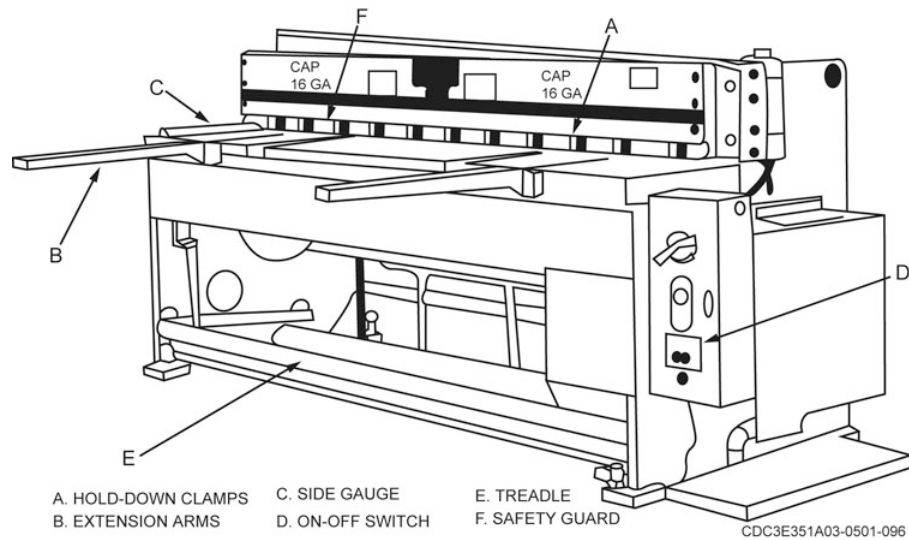

Figure 4-66. Power-operated squaring shear.
Power-operated squaring shears (fig. 4-66) provide a convenient means of cutting and squaring sheet metal. Using this tool saves time and increases production.
This machine consists of a lower blade that's stationary on the bed of the shear, an upper blade that's attached to the crosshead, and hold-down clamps (fig. 4-66, A) to hold the metal securely during cutting. The hold-down clamp lets you get your hands out of the way during cutting. The bed of the power shears has extension arms (fig. 4-66, B) to support long sheets of metal. At the left end of the bed is a guide (side gauge, fig. 4-66, C) that is graduated in sixteenths of an inch. This guide can be used as a measuring scale for cutting short lengths of metal. It also keeps the metal square with the blade. The on-off switch (fig. 4-66, D) is mounted on the control box.
The back gauge is not shown in figure 4-66, but is a very useful part of the shear. The back gauge is adjustable forward and backward, depending on the length of metal required. There is no need to measure between the back gauge and the fixed horizontal blade because you can read all measurements on the back gauge, which is graduated in sixty-fourths on an inch. Newer shears have a computerized back gauge with a digital display that makes adjustments easier.
Before turning the power shears on, check the machine to make sure it is clear of material and people. The machines you use have guards for your protection; *never* remove them, except when the machine is being repaired. The blade safety guard isn't visible in figure 4-66, F because it's between the hold-down and cutting blade. The blade guard is designed to keep your hands and fingers away from the cutting blades as you operate the machine. Wheel and belt guards are there to protect people and to keep foreign objects from being caught in the moving parts.
3. Make sure the motor reaches full speed before you step on the treadle to cut the metal (fig. 4-66, E). Depressing the treadle engages an automatic clutch that sets the shearing blade in action. When set for single, the shear goes through only one cycle of action each time you depress and release the treadle. For continuous operation, move the clutch shift crank to multicut and simply continue holding the treadle in the down position. Once the treadle is released, the machine stops when it completes the cycle of operation.